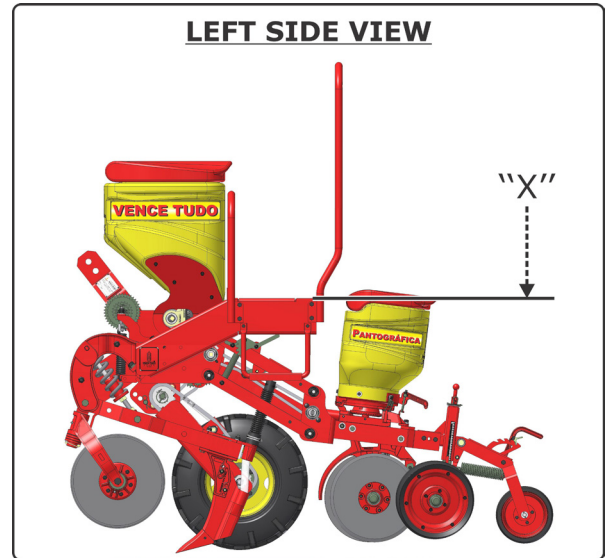
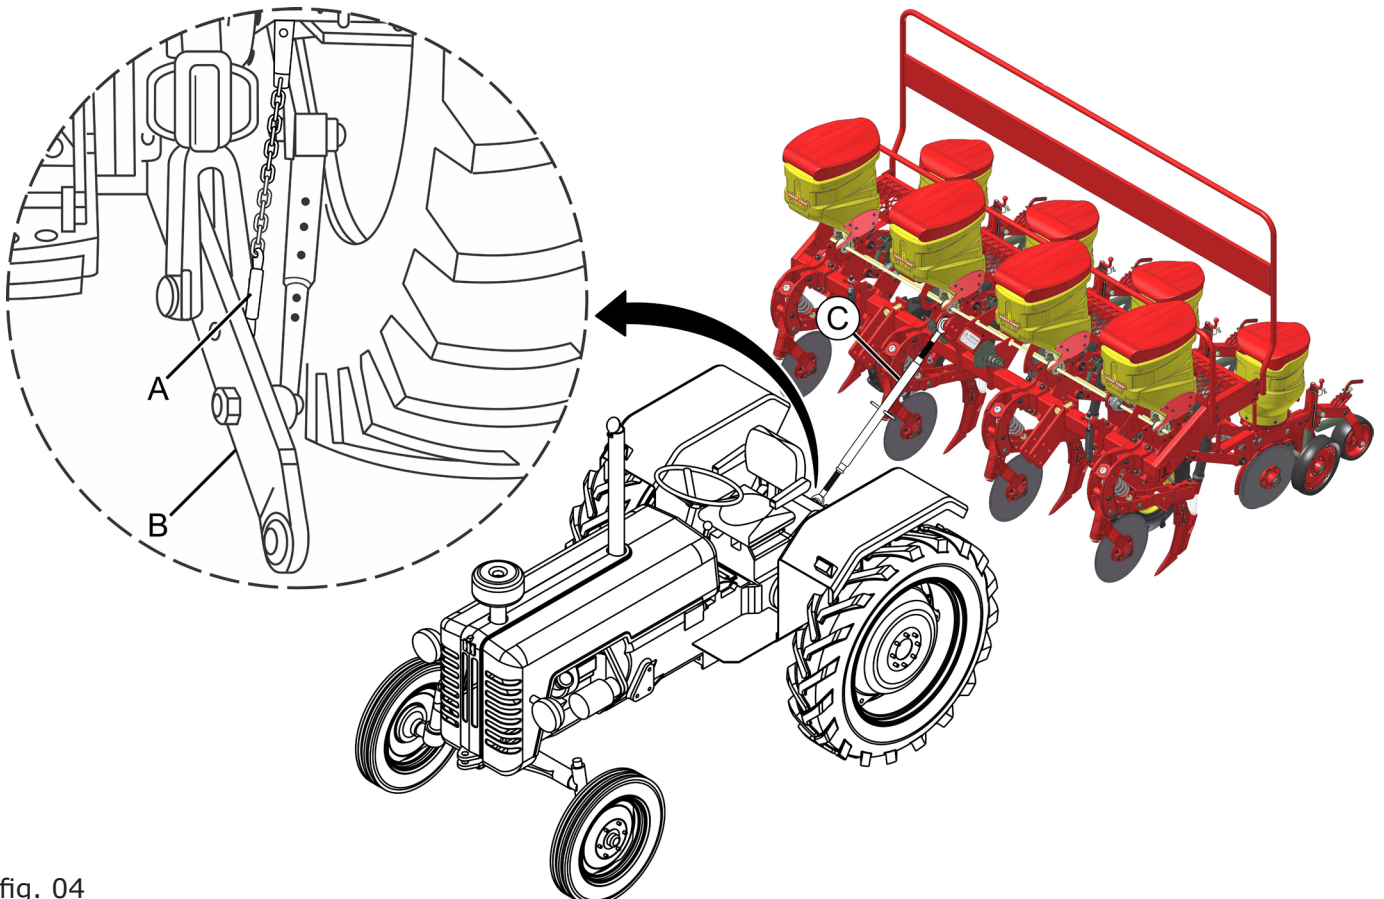

fig. 03
fig. 04
- **Transverse or Side Leveling:** Rotate the thread (A) (fig. 04) of the tractor right hand arm (B) until centering;
- **Longitudinal Leveling:** Rotate the top link arm (C) (fig. 04) until you reach the leveling of arrow ("X") (fig. 03).